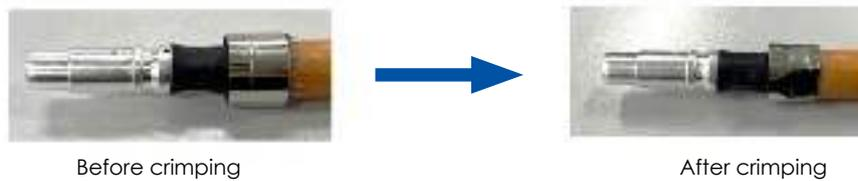

Figure 9
2. The outer shielding ring is assembled on the shielding of cable, pushed to the shielding root of the cable, and then crimped into a regular hexagon, as shown in Figure 9.